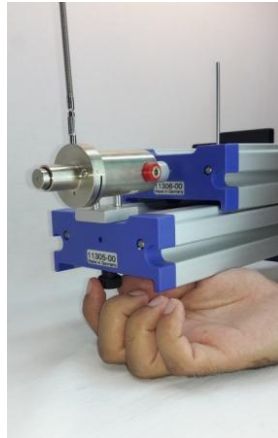

Figure 3.23:
- 5- Rotate the starter system to the new position as shown in Figure 3.23 and Figure 3.24.